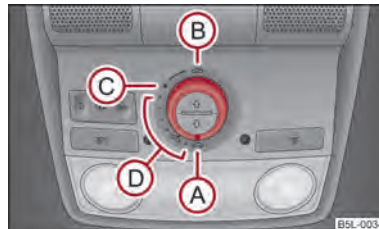

Fig. 21 Control dial for the panoramic sliding roof
The panoramic sliding roof with sun screen can only be operated with the control dial when the ignition is switched on ⇒ fig. 21. The control dial has several positions.
- Turn the switch to position **C** ⇒ fig. 21.
- Turn the switch to position **A** ⇒ fig. 21.